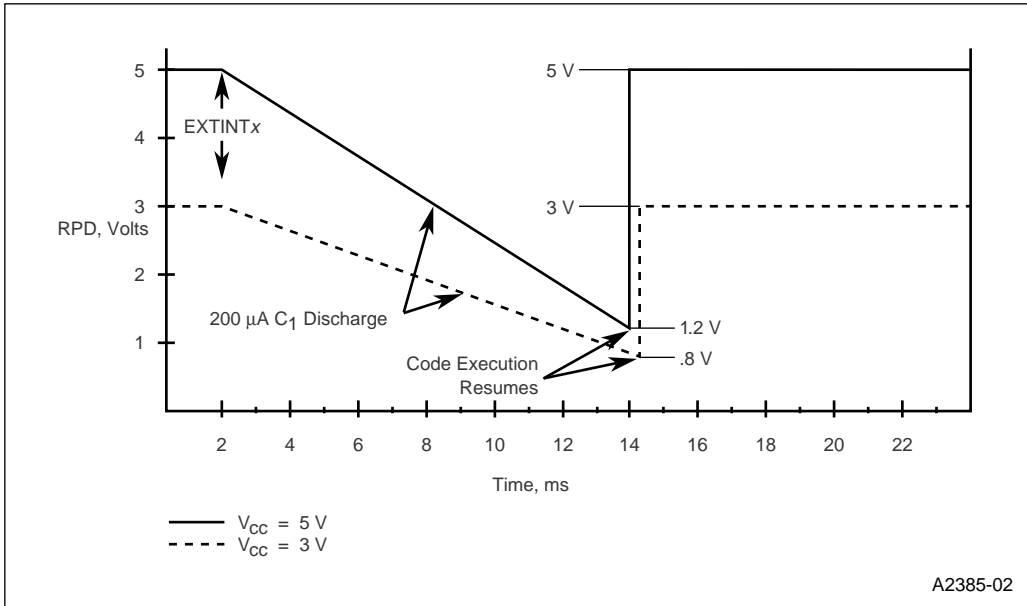

Figure 12-4. Typical Voltage on the RPD Pin While Exiting Powerdown
At this time, a Schmitt-triggered detection circuit prompted by the switching voltage levels strongly drives a logic one, quickly pulling the RPD pin back up to V_{CC} (see recovery time in Figure 12-4). The time constant (RC) follows an exponential charging curve. However, since there is no external resistor on the RPD pin, the time constant goes to zero and the recovery time is instantaneous.